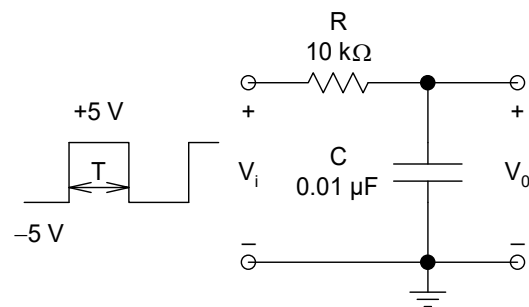

Figure 1 RC Integrator Circuit
Wire the circuit of Fig.1. Connect signal from the OUTPUT socket of the FG to the RC circuit, and also to the CH-1 input of the DSO. Choose square wave signal and adjust the amplitude control to obtain a waveform going from -5 V to $+5\text{ V}$. Connect the output of the RC circuit to CH-2 input of the CRO. Be sure to choose the **DC** mode for both CH-1 and CH-2 inputs so as to observe the dc levels of the signals. Use DSO to set the frequency of FG.
2. Set up the scope to display on both channels and connect the points indicated in Fig.1(a) to the respective channels.
7. Repeat the above steps. for the *RL* circuit in Fig.1(b). Now take readings of amplitude and phase at 2kHz, 5kHz, 10kHz, 20kHz, 50kHz, 100kHz, 200kHz, 500kHz.